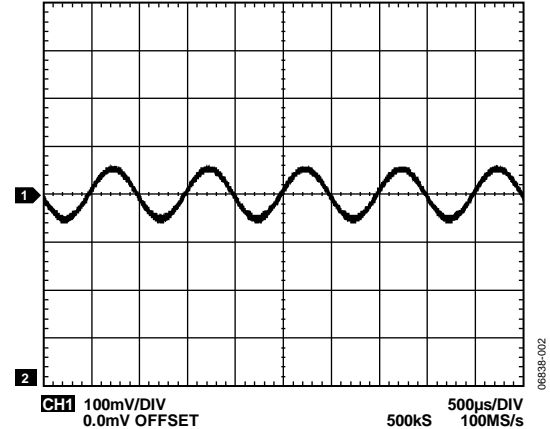

Figure 2. Output of the AD8251-EVALZ when $G = 1$
3. Observe the output of the AD8251 evaluation board on the oscilloscope. The output must look similar to Figure 2, showing a signal of 400 mV in amplitude.